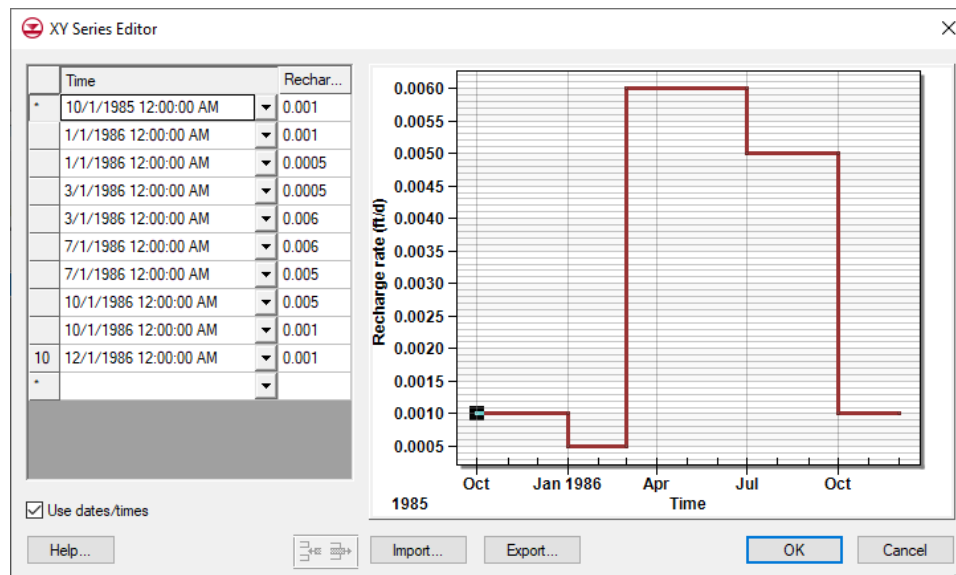

Figure 3 XY Series Editor showing recharge rate
8. Enter the data from the following table into the appropriate columns and rows in the *XY Series Editor* dialog spreadsheet. Once done, the dialog should appear as in Figure 3.
Depending on the computer settings, the dates may be formatted differently than shown in Figure 3. Those shown above are formatted *month/day/year*.